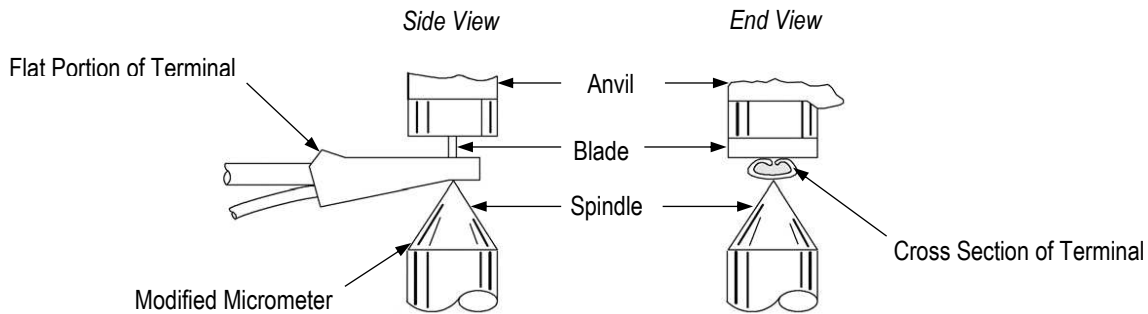

Figure 16
1. Inspect the termination for conformance to the requirements given in Figure 16, Detail A.
2. Using a crimp height micrometer, measure the crimp height of the termination as shown in Figure 16, Detail B. The crimp height must be within  $\pm 0.08$  mm [ $\pm 0.003$  in.] of the measurement specified for the type of terminal and wire size being used.